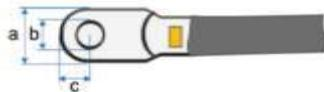

Fig. 4-28 Dimensions of terminal
- Dimensions:  $a \leq 46 \text{ mm} / 13 \text{ mm} \leq b \leq 15,5 \text{ mm} / c \leq 22 \text{ mm}$  (Fig. 4-28)